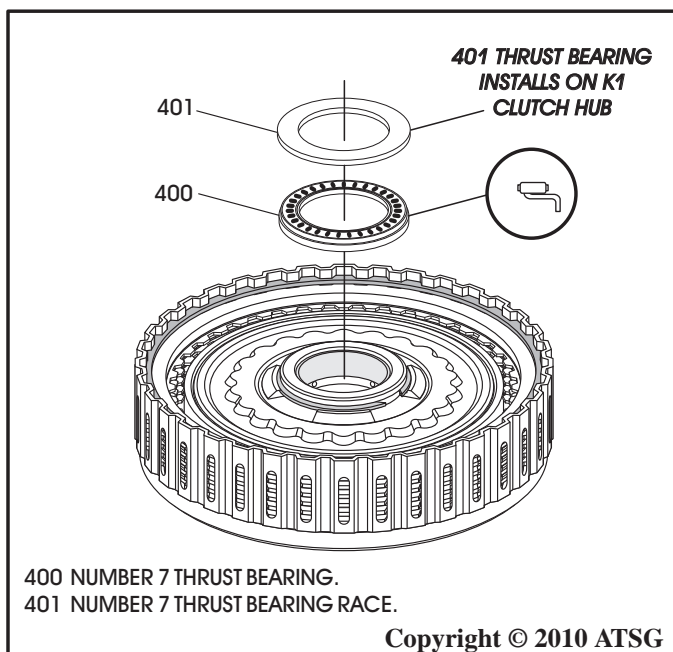

Figure 130
16. Install number 7 thrust bearing on K1 clutch housing, as shown in Figure 130, and retain with Trans-Jel®.